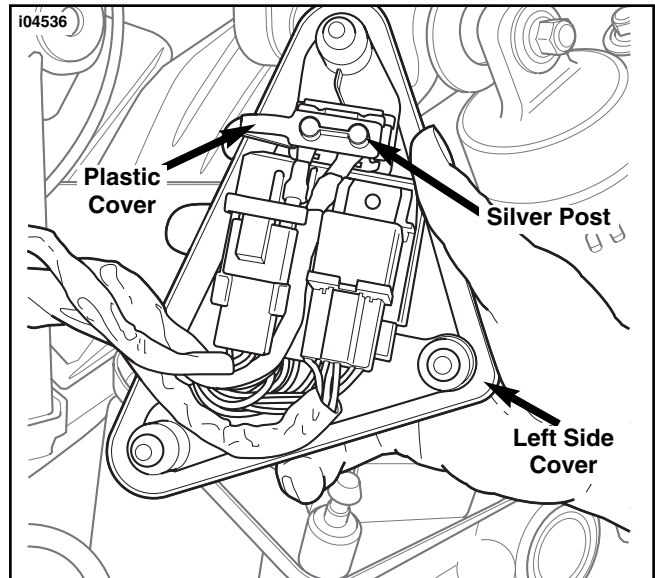

Figure 1. Remove Side Cover and Locate Silver Post
4. See Figure 1. Remove left side cover from frame. Remove plastic cover protecting electrical posts on circuit breaker. (inside cover).